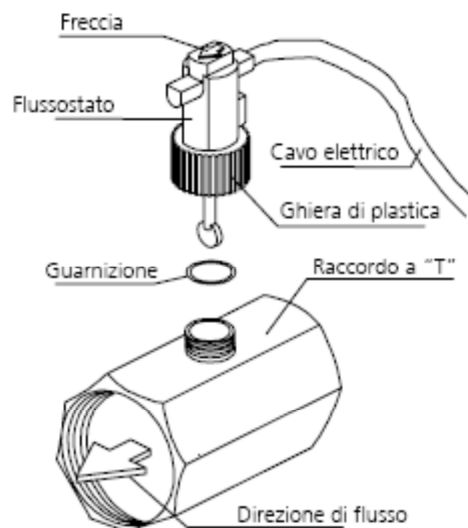

Fig. 5
- To disassemble the flow meter, unscrew the plastic locking ring. When reassembling the flow meter, put the ring seal between the metal fitting and the plastic part (see fig. 5).